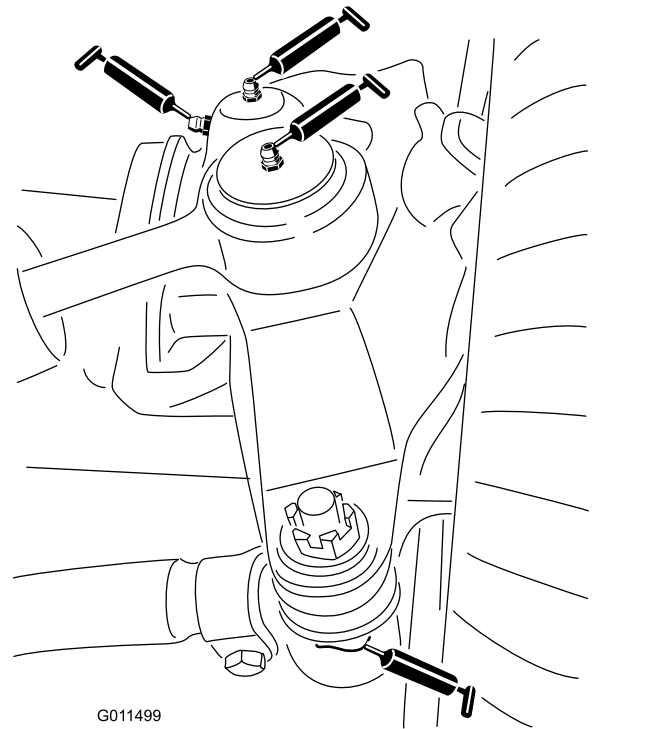

Figure 60
- Steering cylinder ball joints (2) (Figure 60)
- Tie rod ball joints (2) (Figure 60)
- King pin bushings (2) (Figure 60).